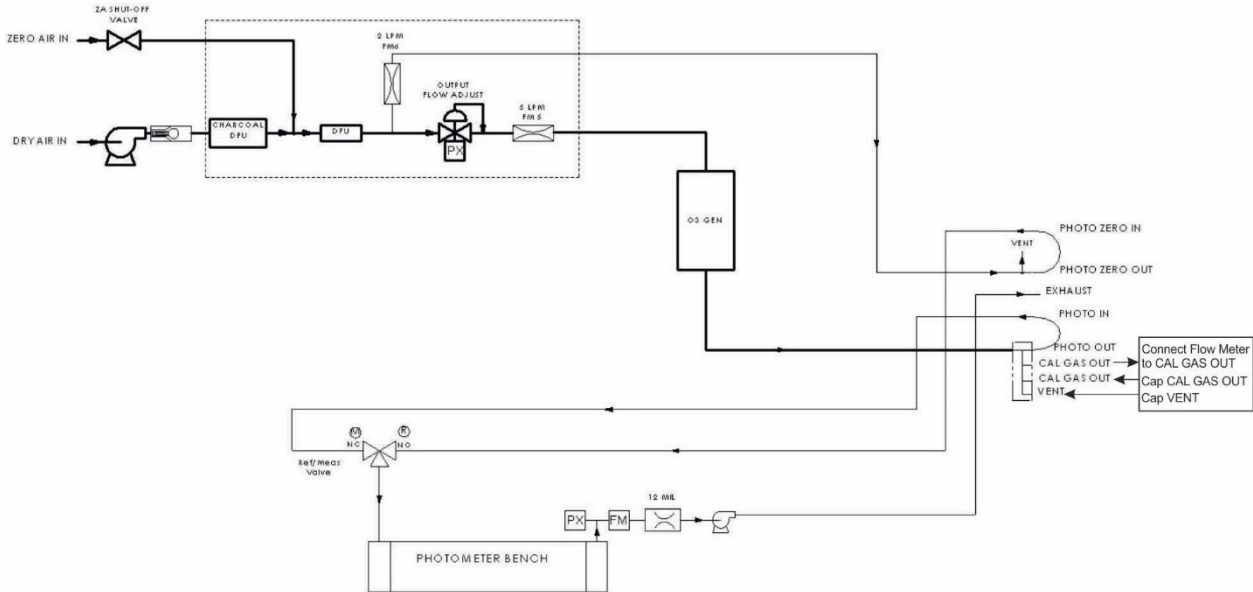
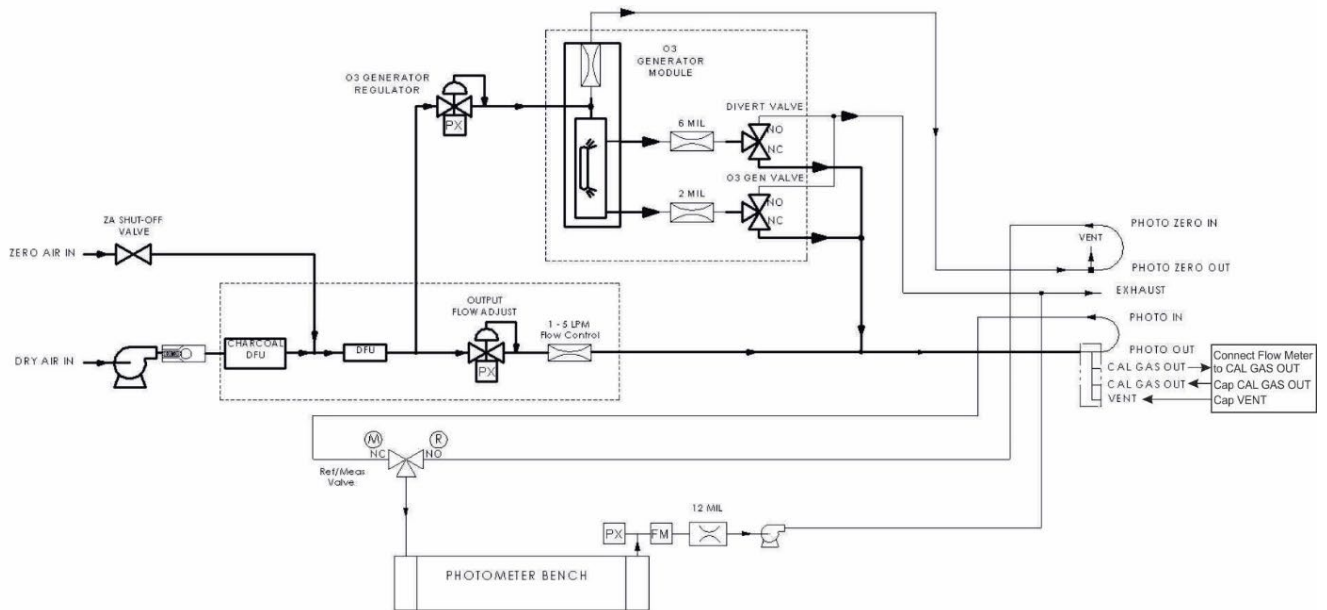

Figure 5-9. T703 Output Flow Calibration Flow
Figure 5-10. T703U Output Flow Calibration Flow
1. Connect an independent, calibrated external flow meter/monitor per the preceding Note. Figure 5-9 and Figure 5-10 show the flow paths for T703 and T703U, respectively.